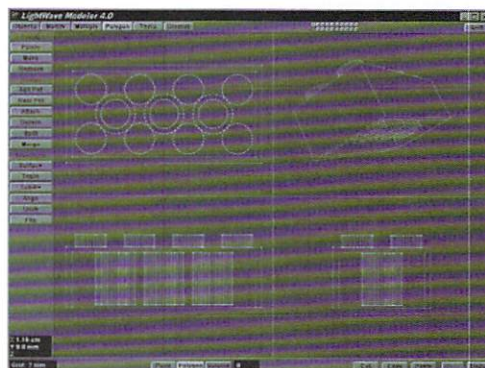

Figure 5
Once again, use the clone command to add the other tubes to our Building Block. Select the Multiply Menu, then Clone input 2 for number of clones and 8 mm for x offset. Press (OK) to perform the clone. All that is left to do is to cut the tubes back to layer one. After doing so, press (Shift S) for Save As and name your finished Object "Building Block.lwo" (Figure 5).